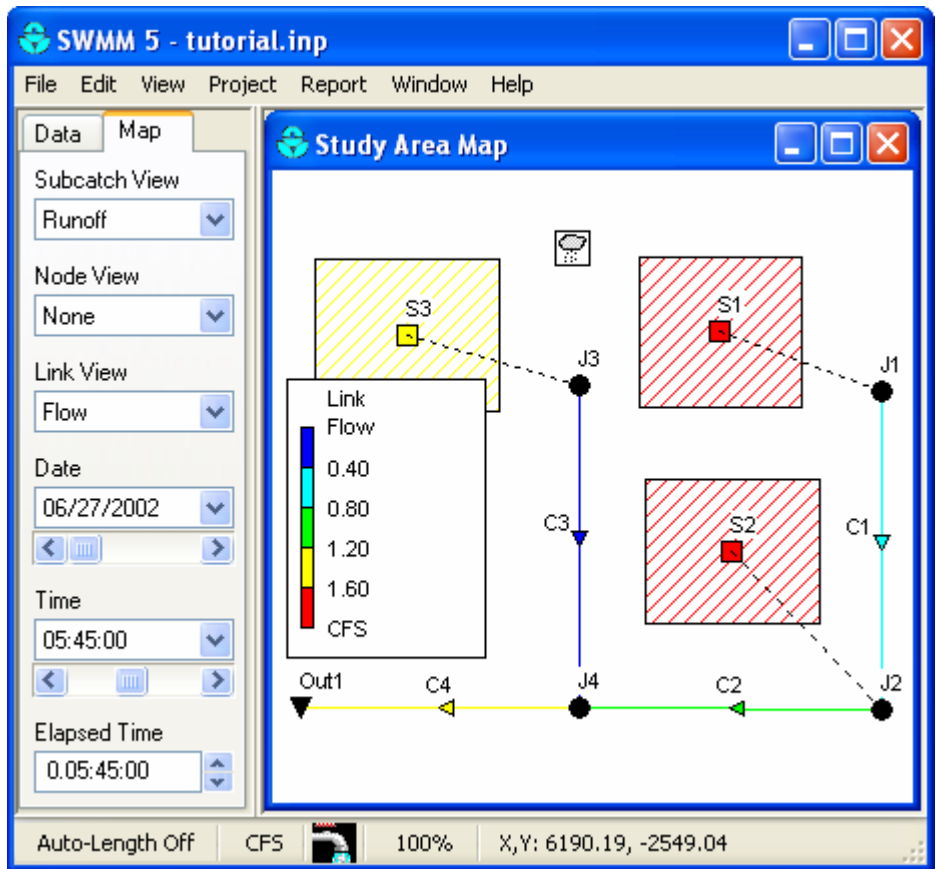

Figure 2-12. Example of viewing color-coded results on the Study Area Map.
2. Select the variables to view for Subcatchments, Nodes, and Links from the dropdown combo boxes labeled Subcatch View, Node View, and Link View, respectively. In Figure 2-12, subcatchment runoff and link flow have been selected for viewing.
6. The Date / Time / Elapsed Time controls on the Map Browser can be used to move through the simulation results in time. Figure 2-12 depicts results at 1 hour and 15 minutes into the simulation.